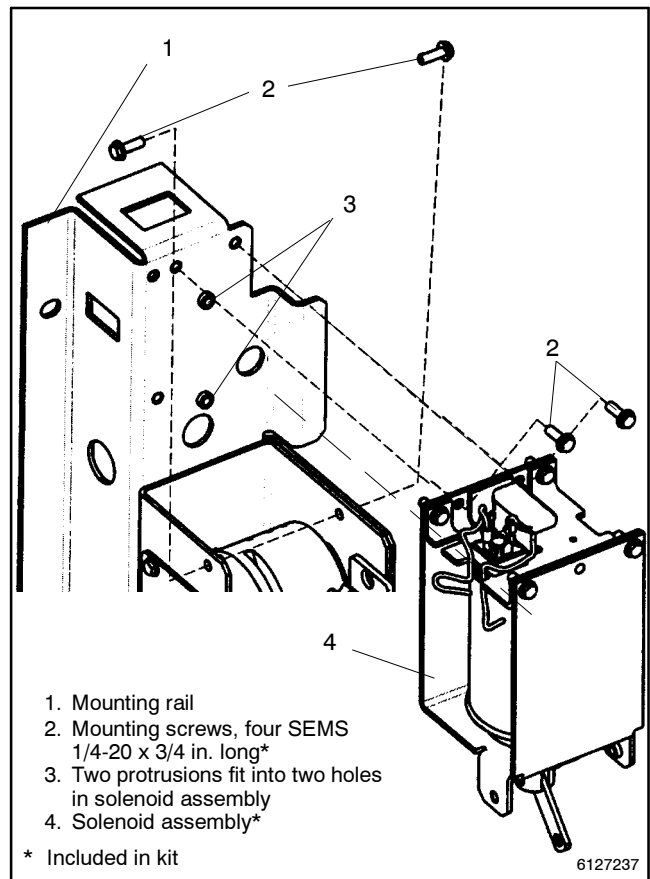

Figure 8-25 Solenoid Assembly
5. Remove the solenoid assembly. Use a 3/8 in. open-end or box wrench to remove four SEMS screws (two at the top, one on either side). See Figure 8-25.
7. Install the new solenoid assembly. Position the new solenoid assembly onto the mounting rail so that the two protrusions align with the holes in the solenoid assembly. The core link should be in the slot in the weight. Use a 3/8 in. open-end or box wrench to install four new 1/4-20 x 3/4 in. long SEMS screws (two at the top, one on either side). See Figure 8-25.